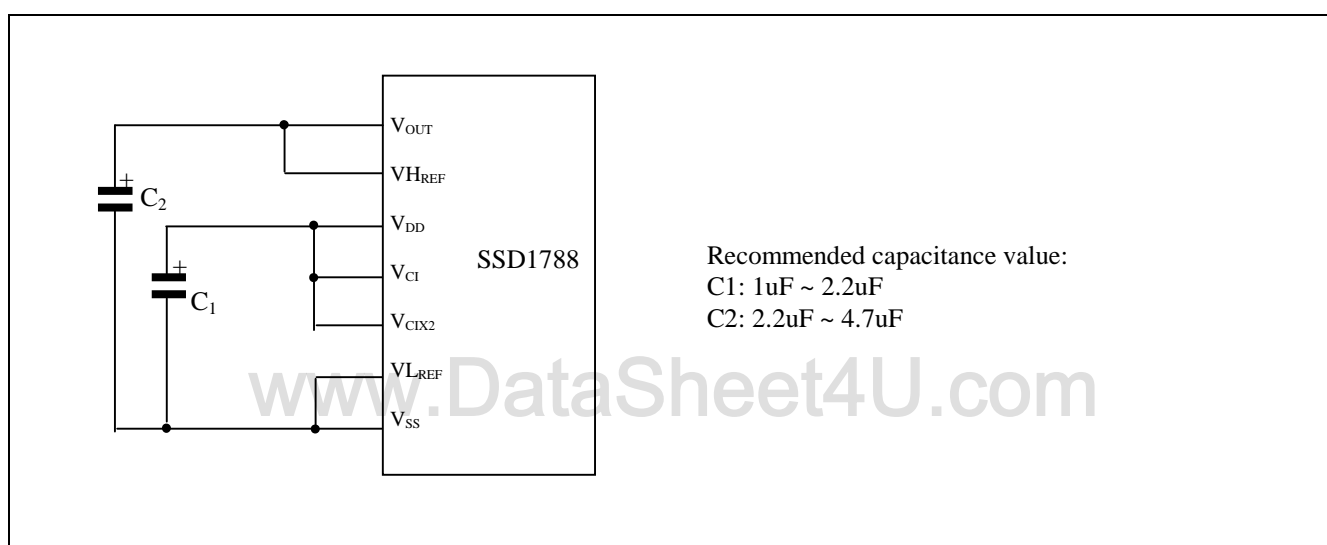

Figure 5 - SSD1788 Hardware Configurations
2. Bias Divider - If the output op-amp buffer option in Set Power Control Register command is enabled, this circuit block will divide the regulator output (V_{OUT}) to give the LCD driving levels ($V_{L2} - V_{L5}$). The divider does not require external capacitors to reduce the external hardware and pin counts, power configuration of op-amp is shown on Figure 5 on page 22. Contrast Control -Software control of 64 voltage levels of LCD voltage.
4. Self adjust temperature compensation circuitry - Provide 4 different compensation grade selections to satisfy the various liquid crystal temperature grades. The grading can be selected by software control. Defaulted temperature coefficient (TC) value is $-0.2\%/^{\circ}\text{C}$.